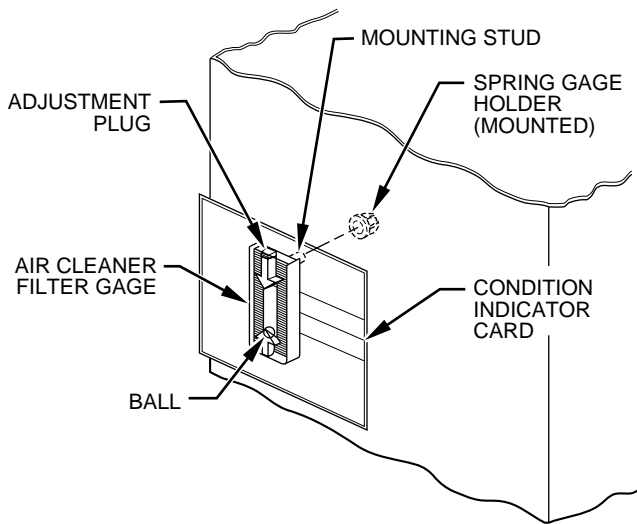

Fig. 4—Air Cleaner Filter Gage Assembly
1. Drill a 3/8-in. hole in duct work or casing. Place spring gage holder in hole. (See Fig. 4.)
2. Insert gage mounting stud through hole in condition indicator card and then in spring gage holder so stud projects into duct or casing. (See Fig. 4.)
3. Adjust airflow gage by rotating range adjustment plug until ball hovers at tip of lower arrow. (See Fig. 4.)